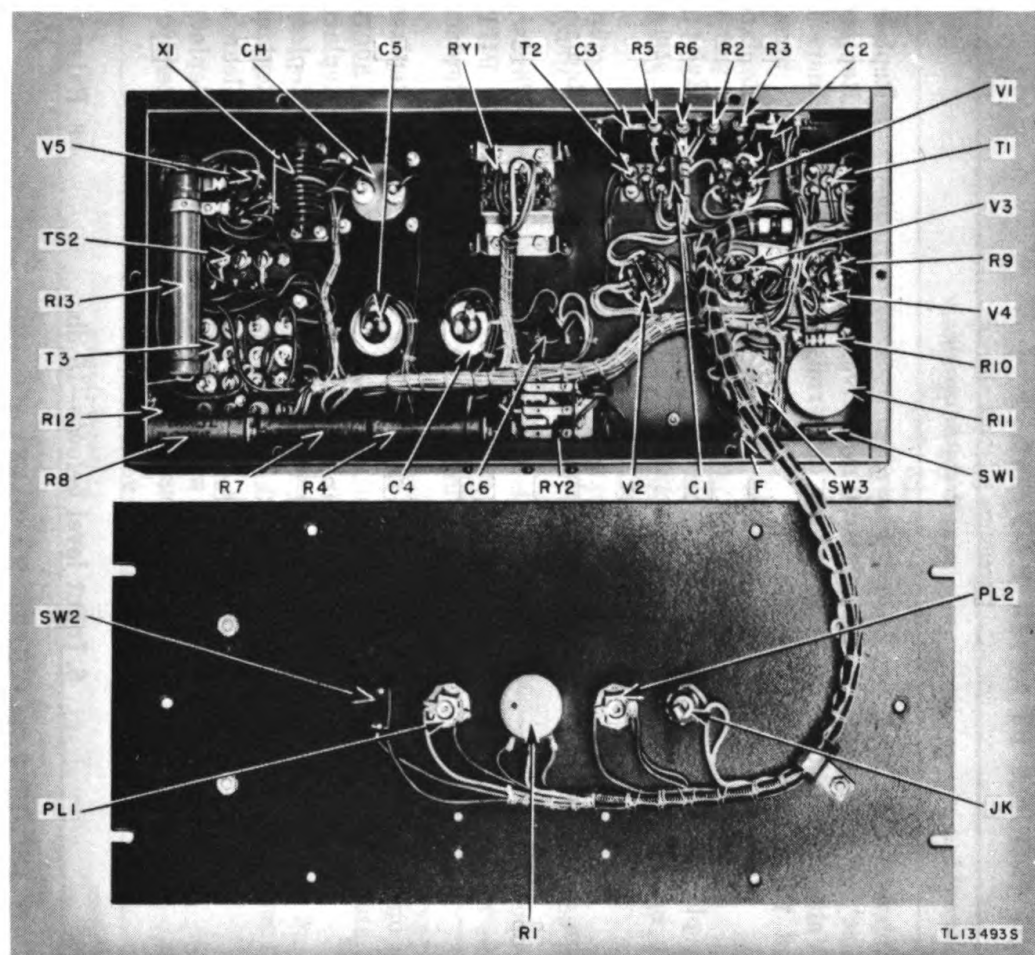

Figure 16. Keyer KY-7/FRT, inside chassis, component parts.
a. To remove the front panel from the keyer, unscrew the six panel fastening screws and fold back the panel in a manner that will prevent chaffing or damage to the interconnecting cable (fig. 16).